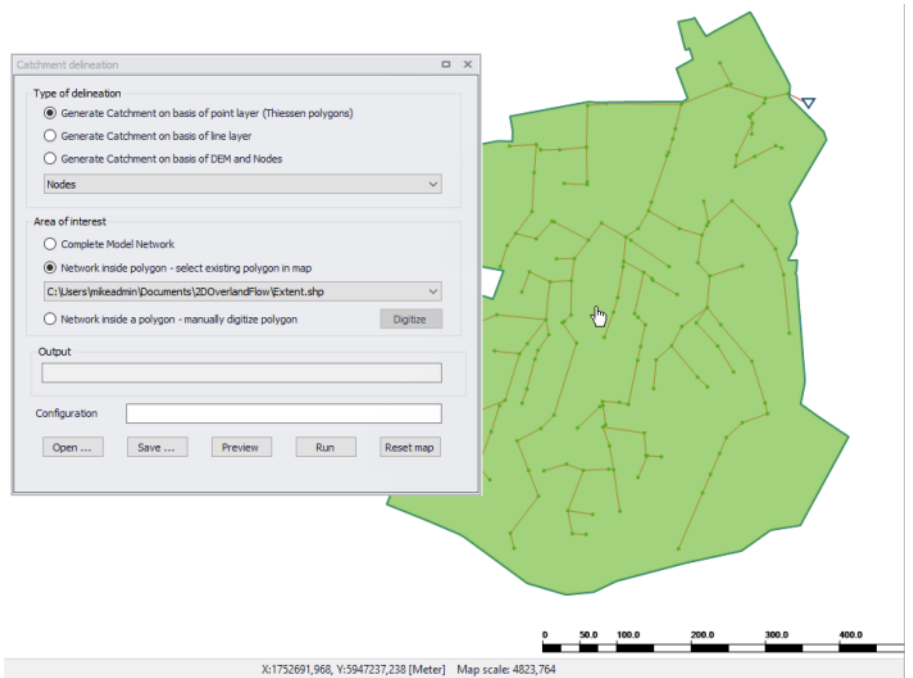

Figure 4.61 Selecting a polygon as a boundary for the delineation
- **Network Inside Polygon - Select Existing Polygon on Map.** Select an existing polygon from any polygon layer in the project. If this method is selected, the specific layer to be used is chosen from the dropdown menu and the specific feature selected on the map. See Figure 4.61.